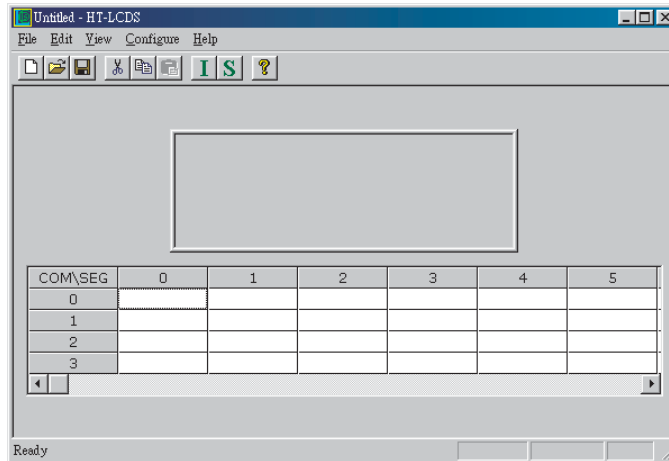
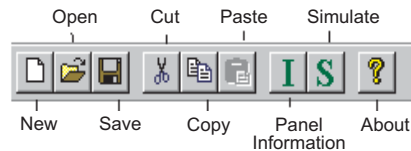
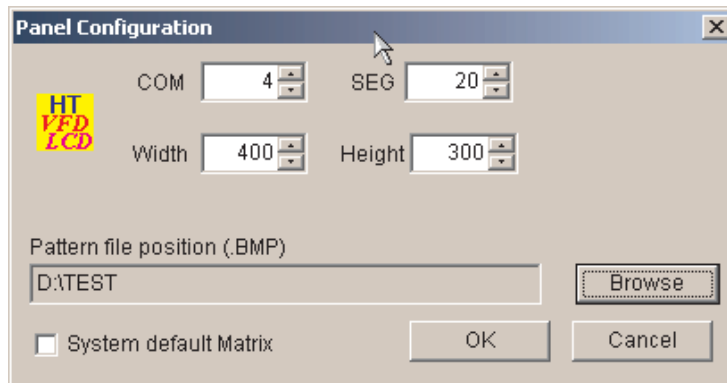
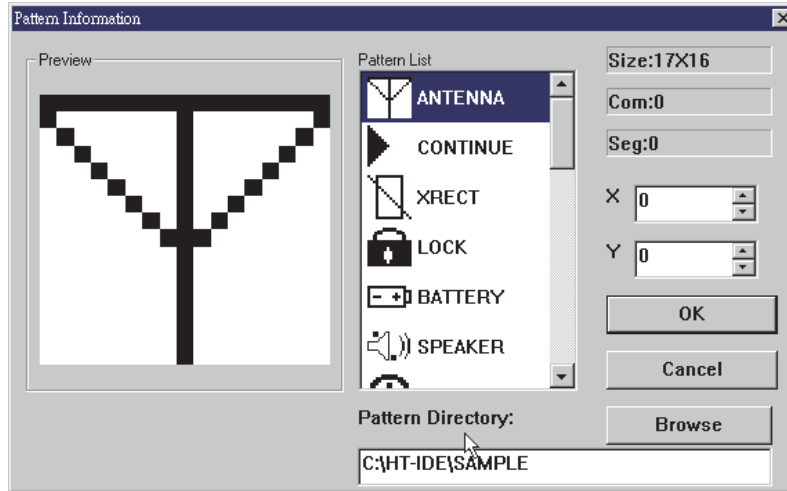

Fig 14-2
Fig 14-3
Fig 14-4
Fig 14-6
When selected from within the Tools menu, the LCD simulator as shown in Fig 14-2 is displayed if the corresponding panel configuration file of the current project exists. The file name of each bitmap pattern is shown at the specified COM/SEG position of the table. At the same time, these patterns are shown on the above panel screen. If the corresponding panel configuration file does not exist within the project directory, both the panel screen and the COM/SEG table will not be displayed. Fig 14-3 shows the HT-LCDS menu bar information.
To setup the panel configurations by selecting the HT-LCDS File menu, New command. The Panel Configuration dialog box (Fig 14-4) will be displayed. Setup the correct LCD driver data, COM/SEG number, Width, Height and Directory of the pattern, then press the [OK] button. After setting up the panel configuration, the system returns to Fig 14-2 for pattern selection.
- COM and SEG. To set the LCD driver total COMMON number and SEGMENT number. The default number of the LCD driver for this microcontroller is displayed when Fig14-4 is displayed. To ensure that these numbers are the same as the actual setting number of the LCD driver for the micro controller.
- To create a new panel configuration file using the HT-LCDS File menu New command. After having set the panel configuration, Fig 14-2 is displayed. The user then has to select the patterns from the Pattern Information dialog box (Fig 14-6) and set the COM/SEG positions. The section, Add a new pattern, describes the procedure in detail.
- To open an existing panel configuration file using the HT-LCDS File menu Open command. The patterns are displayed as shown on the panel screen in Fig 14-2 and the pattern file names are displayed as shown in the Fig14-2 COM/SEG table position. Users can add/delete/change the pattern information, including the pattern file and pattern positions.
- Move the cursor to a COM/SEG position on the grid as shown in Fig 14-2 and double click the mouse. The Pattern Information dialog box, as shown in Fig 14-6, is displayed. All the pattern files (.bmp) in the project's directory are listed in the Pattern List box. The Size field is the bitmap size of the selected pattern, Com and Seg fields are the numbers of the selected COM/SEG position of this pattern. None of these three fields can be modified.
- Press the [OK] button and return to Fig 14-2, then click the File menu, Save command or click the Save button on the toolbar. The panel file has now been created or modified.
- As shown in Fig 14-2, select the COM/SEG position of the pattern to be deleted and press the [Delete] key or click the Cut button on the toolbar.
- Alternatively, as shown in Fig 14-2, select the COM/SEG position of the selected pattern and double click the mouse. The Pattern Information dialog box, as shown in Fig 14-6, is displayed. Select a pattern from the Pattern List box and press the [OK] button.
- As shown in Fig 14-2, use the Select-Drag-Drop method to move the pattern directly onto the panel screen.
- Alternatively, as shown in Fig 14-2, double click the COM/SEG position of the selected pattern. The Pattern Information dialog box, in Fig 14-6, is displayed. Set the X, Y value of the new position and press the [OK] button.
When the above operations have been completed and the system has returned to that shown in Fig 14-2, click the HT-LCDS File menu, Save command or click the Save button on the toolbar. The panel file has now been created or modified.